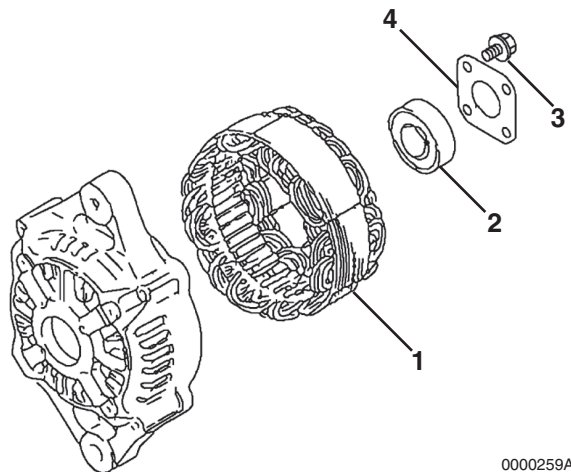

Figure 11-13
2. If removed, lubricate the outside diameter of a new front frame housing bearing. Press the bearing (Figure 11-13, (2)) into the front frame housing. Reinstall the plate (Figure 11-13, (4)) to the front housing. Tighten the four bolts (Figure 11-13, (3)).
3. Position the stator assembly (**Figure 11-13, (1)**) on the front frame housing studs.